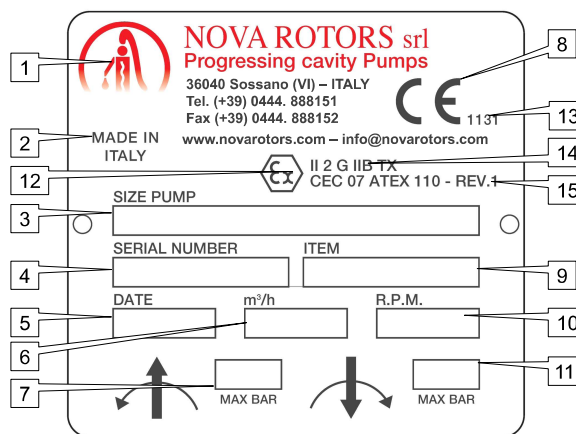

Fig.5 - Data plate for ATEX pump
- for ATEX pumps (**Fig.5**).
The ATEX marking consists of the following elements (**14 - Fig.5**):